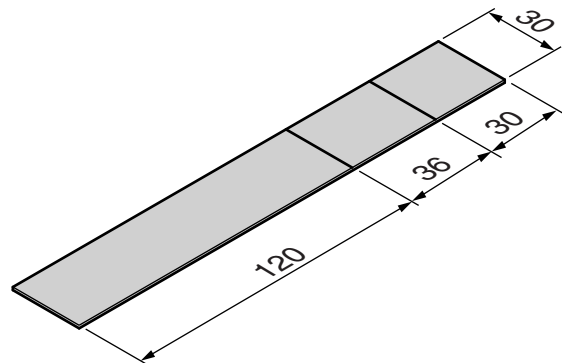

Fig. 11
- (b) Fig. 11 shows one support marked out, ready to be bent to shape.